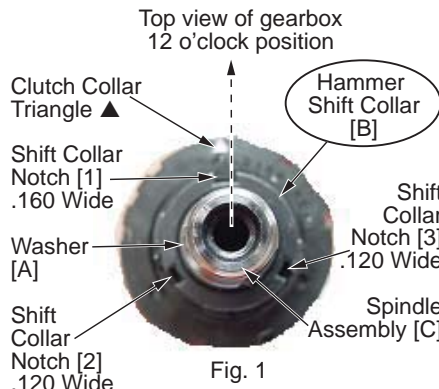
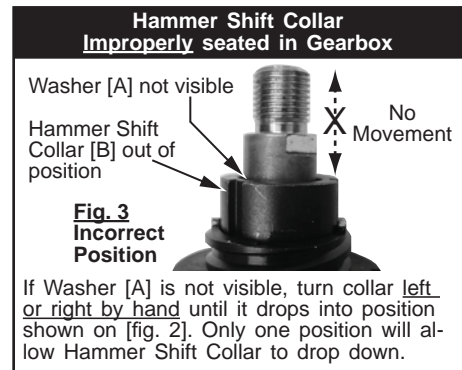

Fig. 1
Fig. 3 Incorrect Position
● Hammer Shift Collar [B] notch [1] with the .160 wide notch in-line or slightly left of gearbox 12 o'clock position (fig. 1).
☞ If hammer Shift Collar [B] is out of position, it will look like example shown in (fig. 3).
- Locate and identify post [E] on the inside of clutch ring [A], fig. 1.
- Align two piece clutch assembly [A,B], as shown in fig. 1.
- Hold gearbox assembly, fig. 3 in one hand with the 12 o'clock position facing up.
- Install clutch ring assembly [A,B], figs. 1,2 over gearbox assembly, fig. 3 in direction of arrows.
- Failure to hold clutch ring symbols together, as shown in figs. 1,2, when installing clutch ring assembly, will result in a misalignment of the internal clutch ring post, shown / illustrated in step 5.